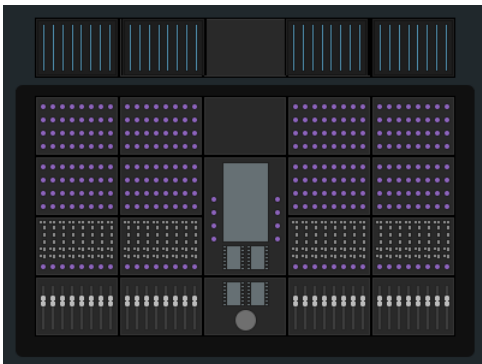

Figure 3. 32-strip S6 M40 arrangement with Display Modules
Figure 3 shows one arrangement for an S6 M40 32-9-D configuration: Four Fader Modules (32 strips), four Process Modules (1 knob per strip), eight Knob Modules (8 knobs per strip), and four Display Modules (D), for a total 9 knobs per strip.